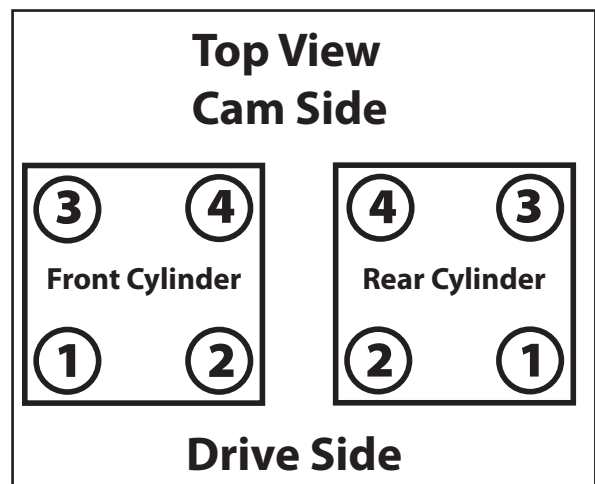

Figure 1
- Tighten each bolt finger tight using the sequence in **Figure 1**.